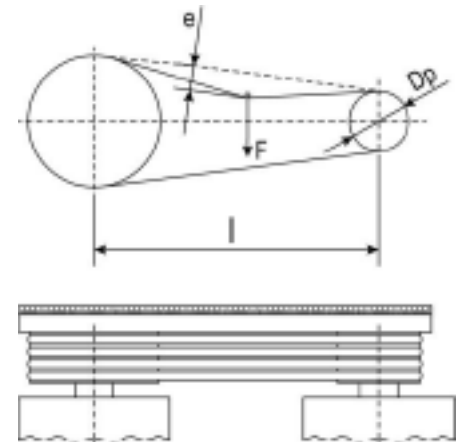

Figure 7
5. During this phase check the alignment of the pulley by using a scale as per Figure 7.